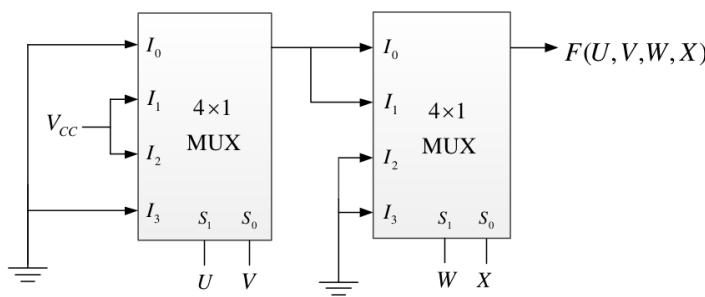

Fig. 4.19
35. A four-variable Boolean function is realized using 4×1 multiplexers as shown in the Fig. 4.19.